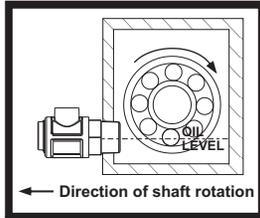

Fig. 1
- Prior to installing the Watchdog Oiler, shaft rotation direction must be determined, typically indicated by an arrow on the casting of the equipment. Install oiler on the side of the equipment facing the direction of shaft rotation to prevent misfeeding of the Watchdog Oiler (see Fig 1).
- Hand tighten Watchdog in a port where the centerline of the main body is at the optimum fluid level (Fig. 1).